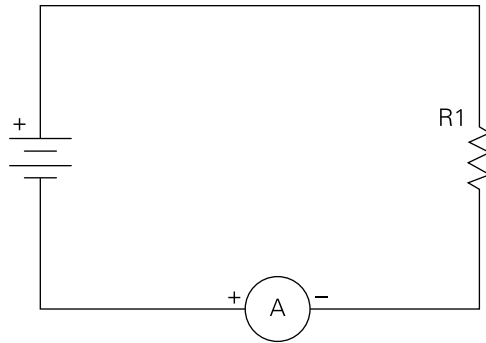

FIGURE 12-12: Measuring current with a multimeter
The resistor we used in the circuit in Figure 12-12 is a *current limiting* component, which is a safeguard to prevent damaging both the Raspberry Pi and the LED.
- Use a power supply set to 3.3 VDC. With the multimeter set to measure current (amps), put it *in series* (make it part of the circuit) and check the current. If your reading's greater than 16mA, add a resistor that limits the current to 16mA or less before connecting the circuit to the Raspberry Pi. Figure 12-12 shows an example of connecting a battery, resistor and amp meter (such as a multimeter switched to read current). When it's in series with the circuit, the multimeter reads the amount of current the resistor consumes. In Figure 12-12, R1 the resistor (right) is represented by the standard symbol for a resistor. The battery is on the left with a plus (+) showing its positive side, and the A in a circle denotes an amp meter for measuring current.